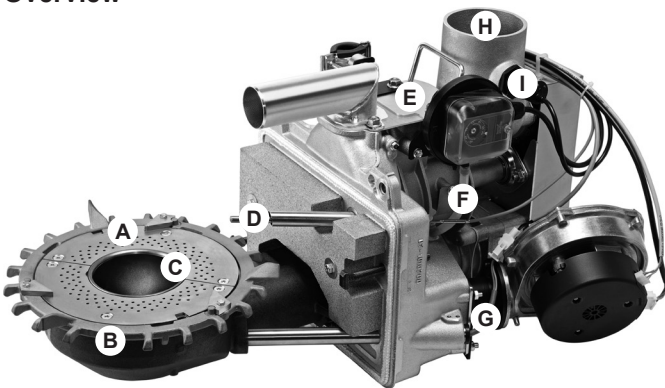

Fig. 11
1. Open the maintenance aperture (E, Fig. 11) of the burner mechanism via the rotary valve and remove fine particles using a vacuum cleaner.
2. Remove fine particles from the pellet drop-shaft (H) using a vacuum cleaner and remove dust adhering to the filling level sensor.
3. Disconnect the hose for negative pressure measurement (F) and clean the filter.
4. Carefully remove the glow igniter from the ignition rod (G), remove ash residue and vacuum clean.